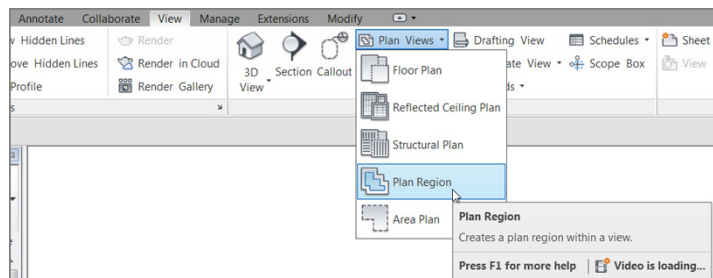

FIGURE 9.14: The Plan Region option on the Create panel of the View tab
3. On the View tab, select Plan Views > Plan Region, as shown in Figure 9.14.